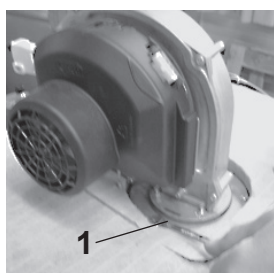

Fig. 23
6. Unfasten the earth wire (1, Fig. 23) on the burner cylinder.